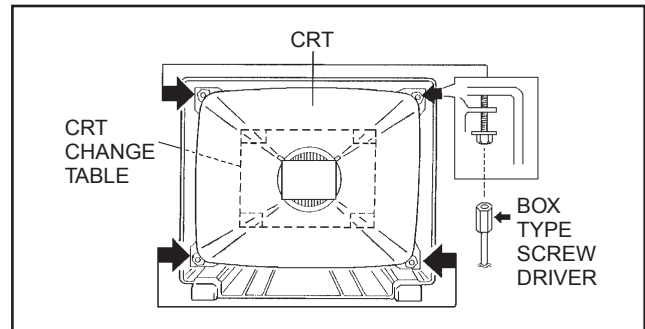

Fig.3
- (3) Remove 4 screws marked by arrows with a box type screw-driver as shown in Fig. 3.